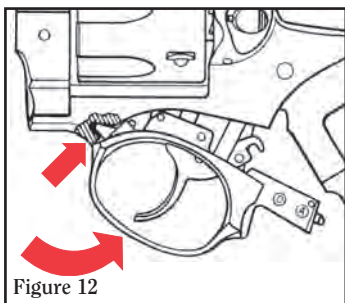

Figure 12
6. Use a screwdriver of appropriate size and insert it through the hole in the frame to depress the trigger guard lock plunger located inside the frame at the rear of the trigger guard. Simultaneously pull down and remove the trigger guard assembly (see Figures 12 & 13). It may be necessary to slightly depress the trigger while removing the trigger guard assembly.
2. Hook the front of the trigger guard into the recess in the frame (see Figure 12, p. 21). Align the pawl in its recess in the frame and be sure the transfer bar is in the correct position in the rear of firing pin. Swing the trigger guard upward into position in the frame then allow the latch to re-engage. If solid resistance is felt when swinging the trigger guard into the frame, or if the trigger guard will not lock into position, re-check the position of the pawl and transfer bar (see Figure 14).